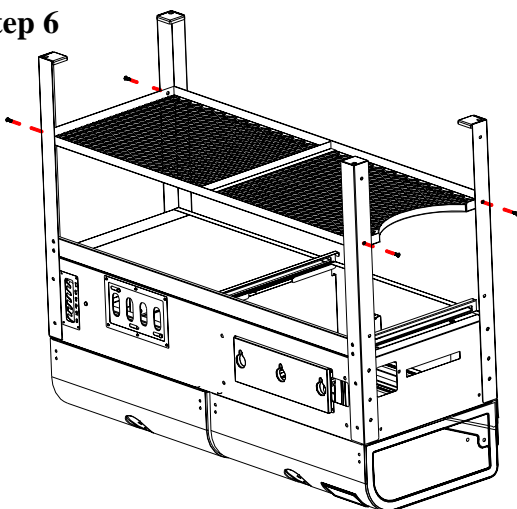

Fig. 6
Refer to Fig. 6 and attach the Bottom Mesh Shelf to the Legs as shown using (1) M6x15 bolt in each hole at both ends of the Shelf.